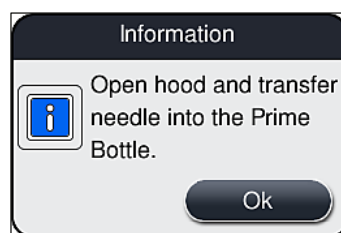

Fig. 96
3. Observe the following information message (→ Fig. 96).
5. Stick the needle unit (→ Fig. 97-1) in the prime bottle (→ Fig. 97-3) and acknowledge the information message (→ Fig. 96) with **OK**.
4. Note the following information messages (→ Fig. 95), (→ Fig. 96) and (→ Fig. 100) and confirm each with **Ok**.